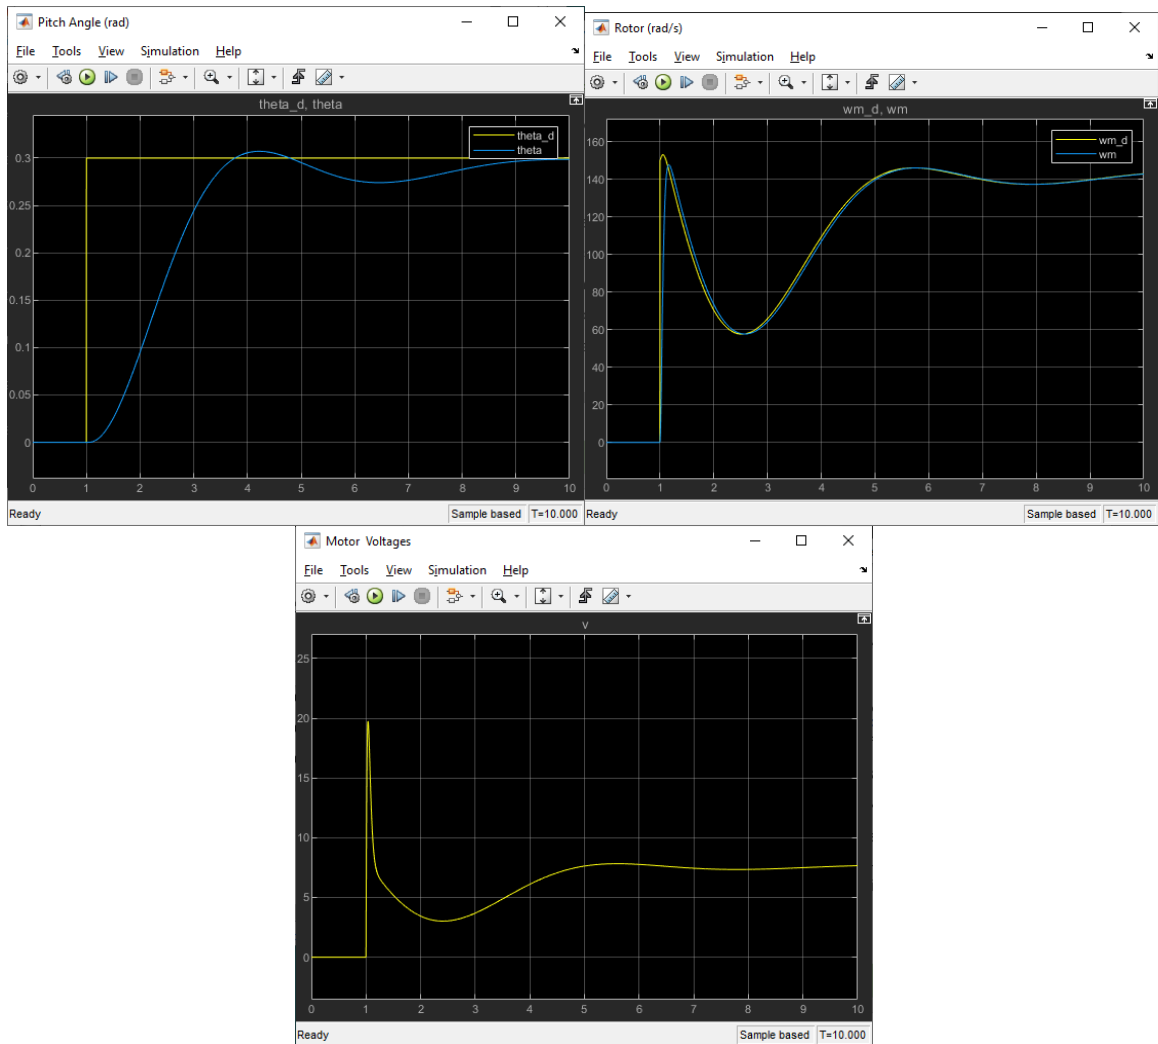

Figure 2 – Sample response from the Aero 2 simulation model
- Run the `s_aero2_pid.slx` Simulink model to simulate the closed-loop response of the PID control. You should get a response similar to the scope shown in Figure 2.